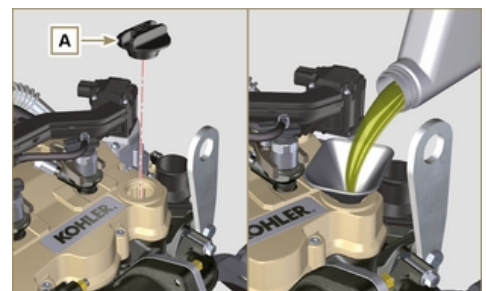

Fig. 5.2
4. Re-tighten the cap **A** and/or **C** (Fig. 5.2) .